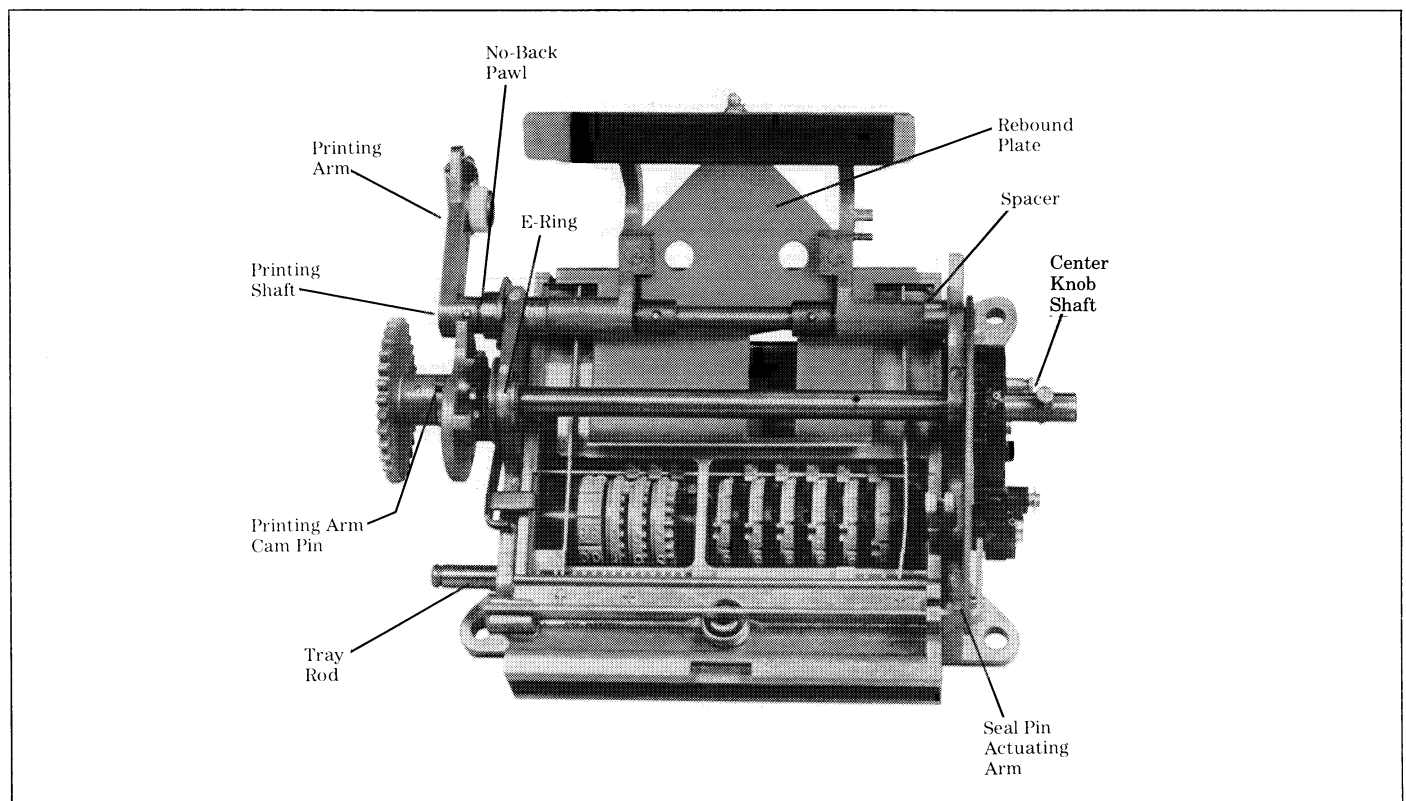

Figure 19. Ticket Tray Parts Identification
**A. TICKET TRAY REMOVAL (Figure 19).**
## D. TICKET TRAY INSTALLATION (Figure 19).